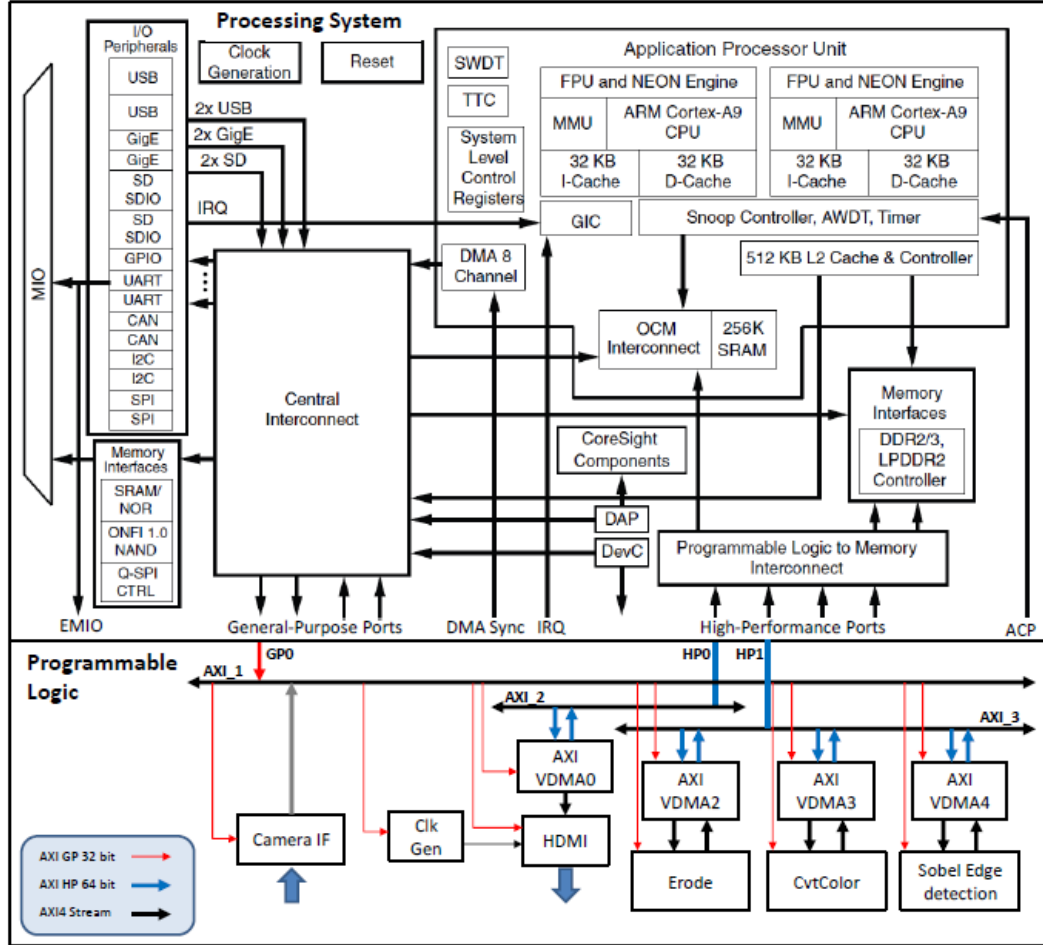

Figure 3.4.: Block diagram of the system set up on Zynq.
Last lab Lab D is about designing a complete video processing system. Tasks for this lab will be to do hardware acceleration of the SW application which we implemented in the Lab C. We will generate the new HA following the HLS steps in Lab B, and export a new PCore for Xilinx design environment. We will use the set up from the Lab C and add the generated HW IP to the system. We will make appropriate software changes to use the new HW into the application processing. Figure 3.4 shows the block diagram of the system set up.
10. Give a brief description of the building blocks of *Zynq's* Application Processing Unit? (ref. Figure 3.4)